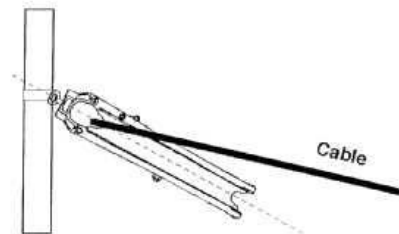

Figure 4. Incorrect Traveler
- 8.2 Traveler Installation- Each structure in the pulling segment must have a traveler installed and a pulling rope threaded (reeved) through it. Each traveler must be balanced so that the rope, and the following ADSS cable, rides at the bottom of the neoprene insert's groove. It is important to tie up the traveler at each angle so the pulling rope and ADSS cable enter and exit the traveler smoothly (See Figures 4 and 5 at right). If the cable enters at an angle, it increases the chance of jumping from the traveler groove into space between the traveler and the yoke holding the traveler to the pole. This would cause severe damage to the cable.